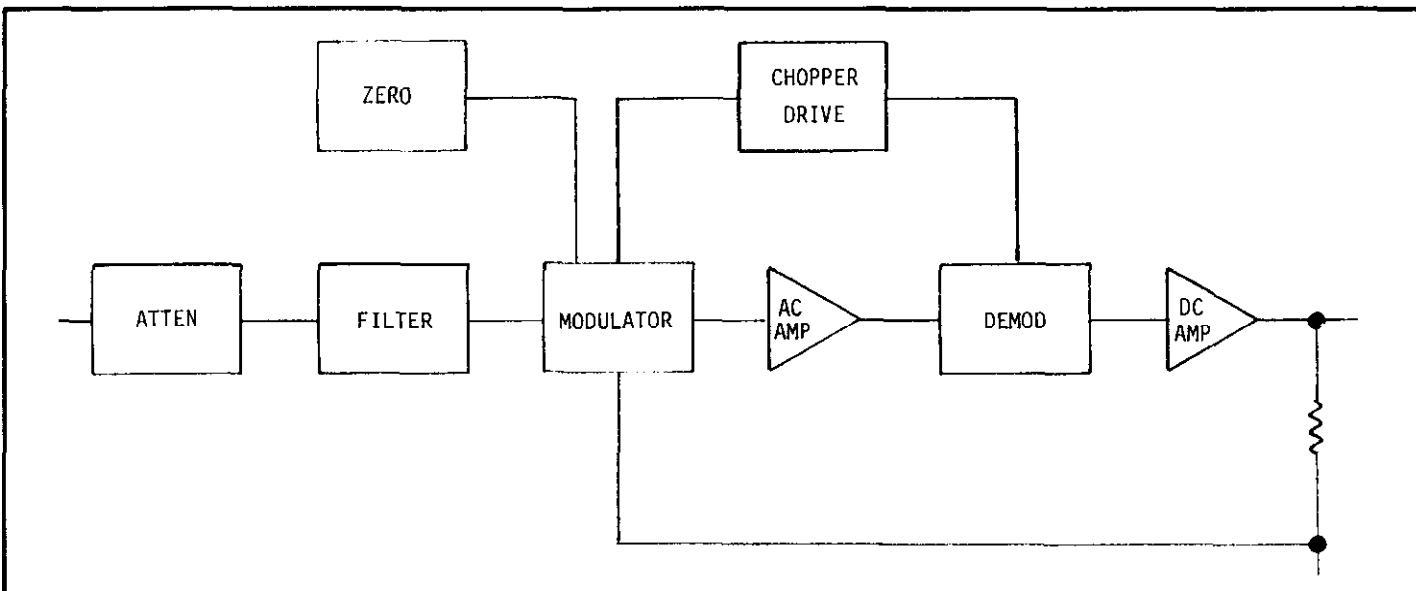

FIGURE 10. Analog Amplifier Block Diagram.
3-2. ANALOG AMPLIFIER OPERATION. A simplified block diagram of the analog amplifier is shown in Figure 10.
3. Feedback Rezeroing Circuit. This circuit provides rezeroing of the Integrator circuit using negative feedback from the Zero Crossing Detector output. Transistor Q411 is the equivalent of Switch Sb in Figure 10. Resistor R434 and capacitor C414 form a feedback-loop filter circuit. Diodes D407 and D408 provide fast response for large input offsets due to input overloads.